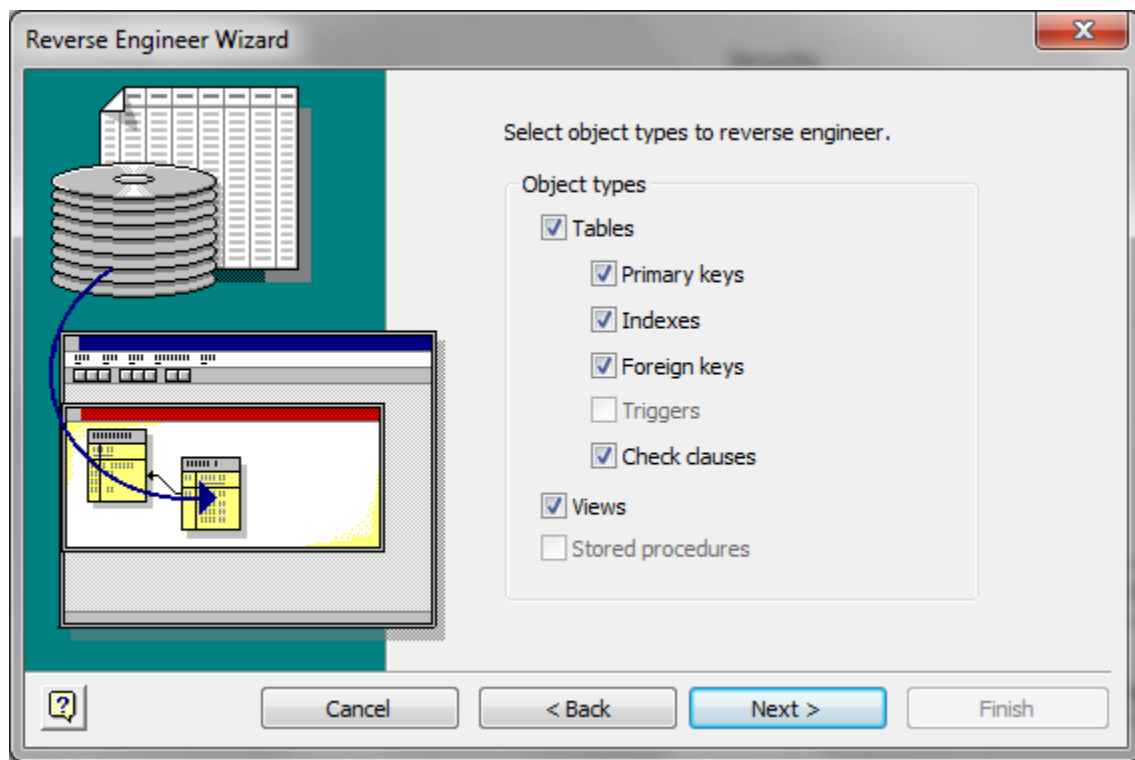

Figure 65: Second Window of the Reverse Engineer Wizard
4. Second Wizard Window: After you successfully locate the database, the second wizard window (Figure 65) appears. This window allows you to indicate what parts of the database to convert. Choose the selections shown in Figure 65 and click the **Next** button.